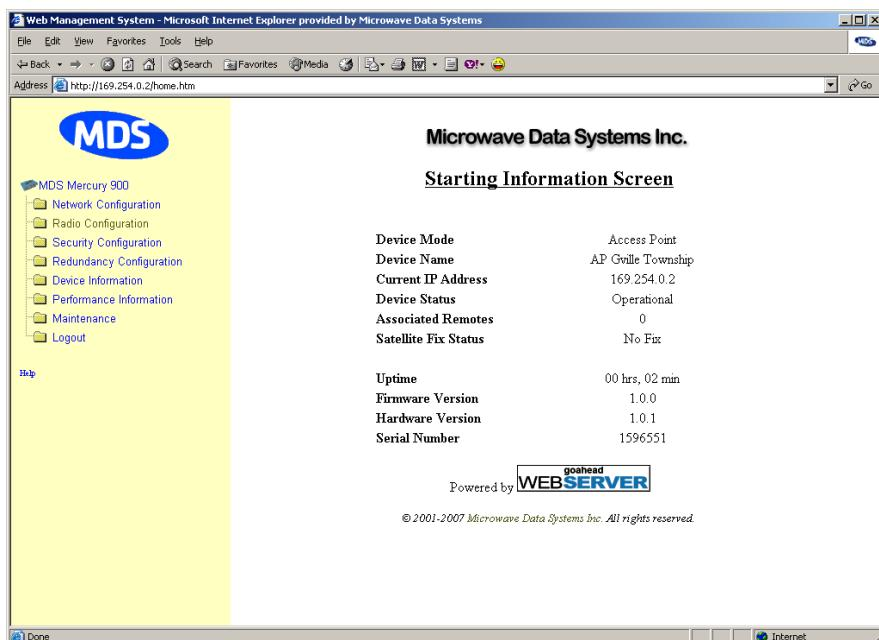

Figure 3-8. Starting Information Screen □ Web Browser Example
5. Click **OK**. The unit responds with a startup menu screen similar to that shown in Figure 3-8. From here, you can review basic information about the unit or click one of the menu items at the left side of the screen.